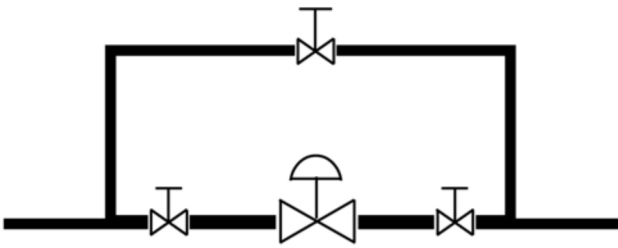

Figure 1
2. For inspection of valve without interrupting the process, provide a hand operated stop valve on each side of the MIL 78000 series valve with a hand operated throttling valve mounted in a bypass line. (See Fig. 1)
- A. Loosen and remove packing flange nuts (3).
- B. Raise packing flange (4) and packing follower (5) up through the valve stem (1).
- C. By means of a hooked instrument, remove packing (6) ensuring not to damage the sealing surfaces of the packing box or plug stem (1).
- D. Replace correct amount of packing (6) above and below the spacer (7).
- E. For Eco-lock type packing (6), do not change the sequence of packing arrangement. The packing is available as a set of lower packing and upper packing. Use the packing as a set only.
**Note: MIL Eco-lock type packing (Figure 1) is a high performance system to keep fugitive emissions within allowable limits. The packing is provided with the lower packing and upper packing as a set.**
- F. Replace packing follower (5) and packing flange (4).
- G. Replace and tighten packing flange stud (2) & nut (3).